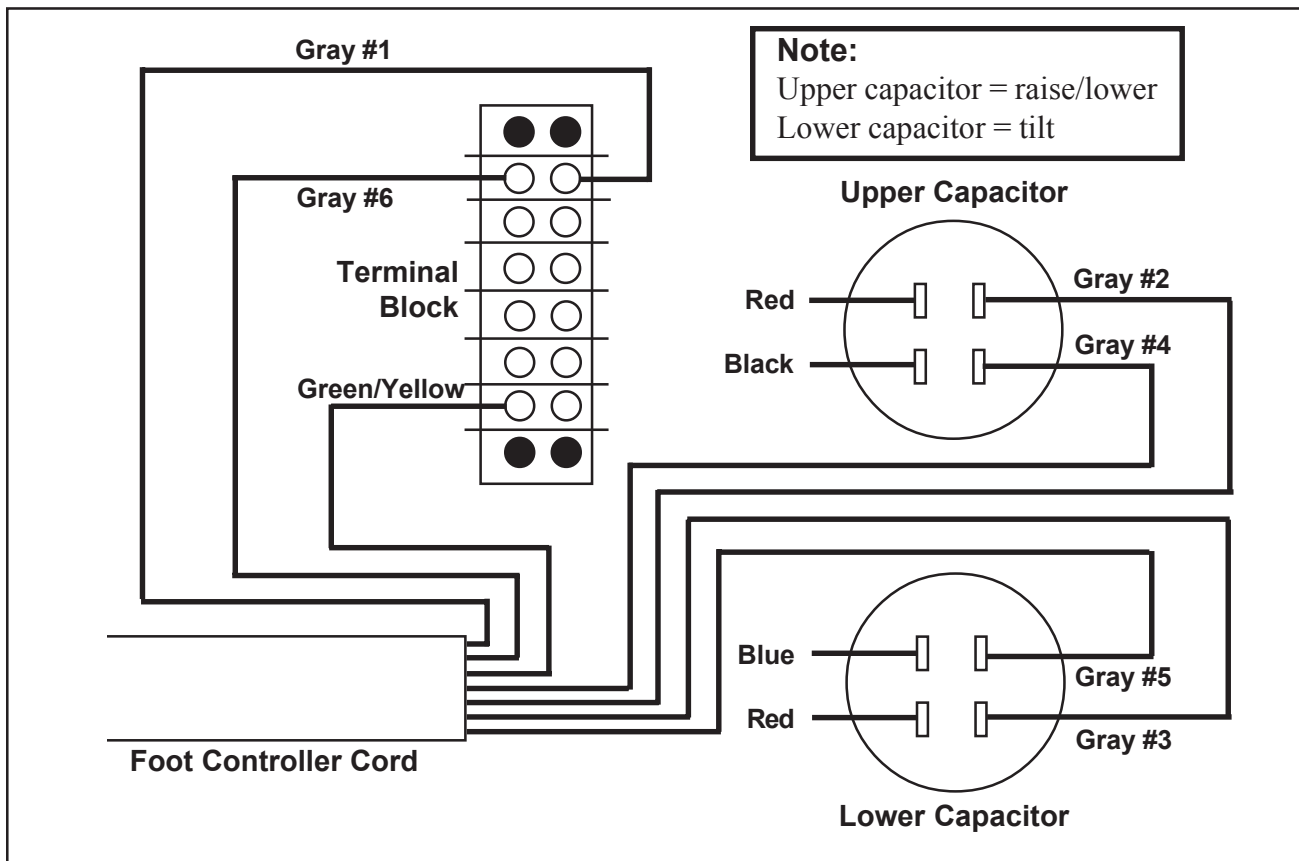

Figure 14. Foot Controller Wire Connections in Base
6. With a small flat-blade screwdriver, disconnect the green/yellow wire from the terminal block (Figure 14).
9. Connect the **#1** wire to the terminal block (Figure 14).